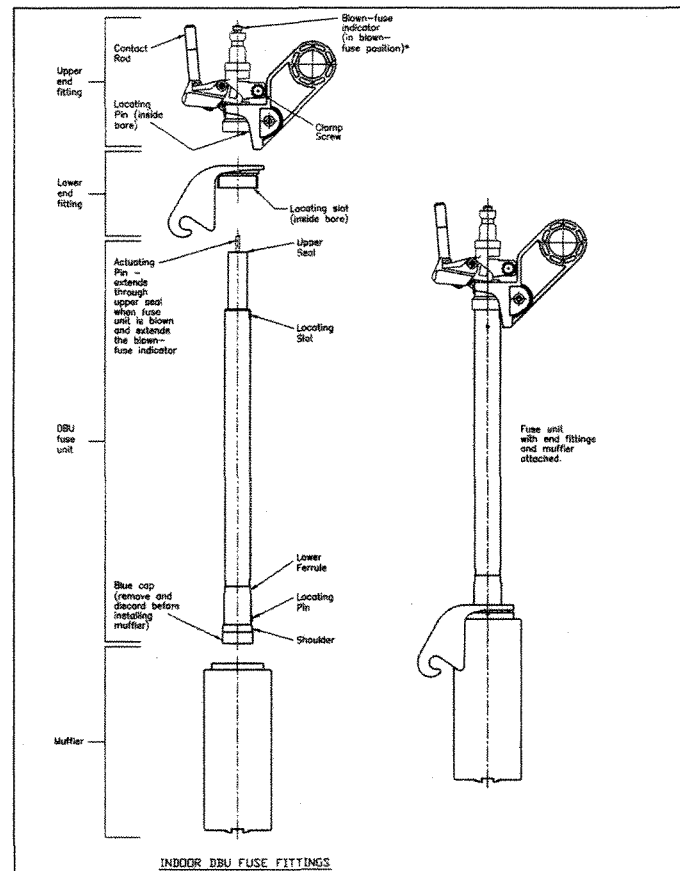

Fig. 1
Attach fuse-unit end fittings (Fig. 1) as follows:
- Loosen the upper end fitting clamp screw, and pry the clamp apart slightly using a screwdriver. Slide the upper end fitting off the upper end of the Fuse Unit. Then unscrew and remove the Exhaust Control Device. Slide the lower end fitting off the upper end of the Fuse Unit. (Refer to Figure 1.)